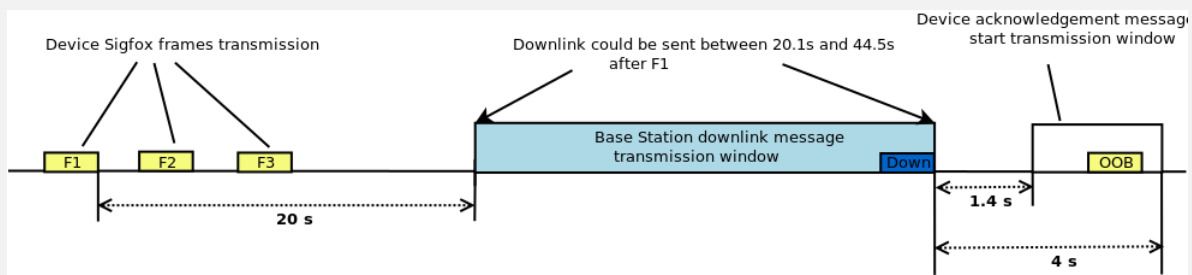

Figure 2: Downlink Timings (last chance to receive downlink frame case)
**Specification Description:** After receiving the downlink frame, *Device or Modular Design* has to wait 1.4 s and no later than 4 s before sending the acknowledgement frame (OOB), following the implementation described in the figure 2.